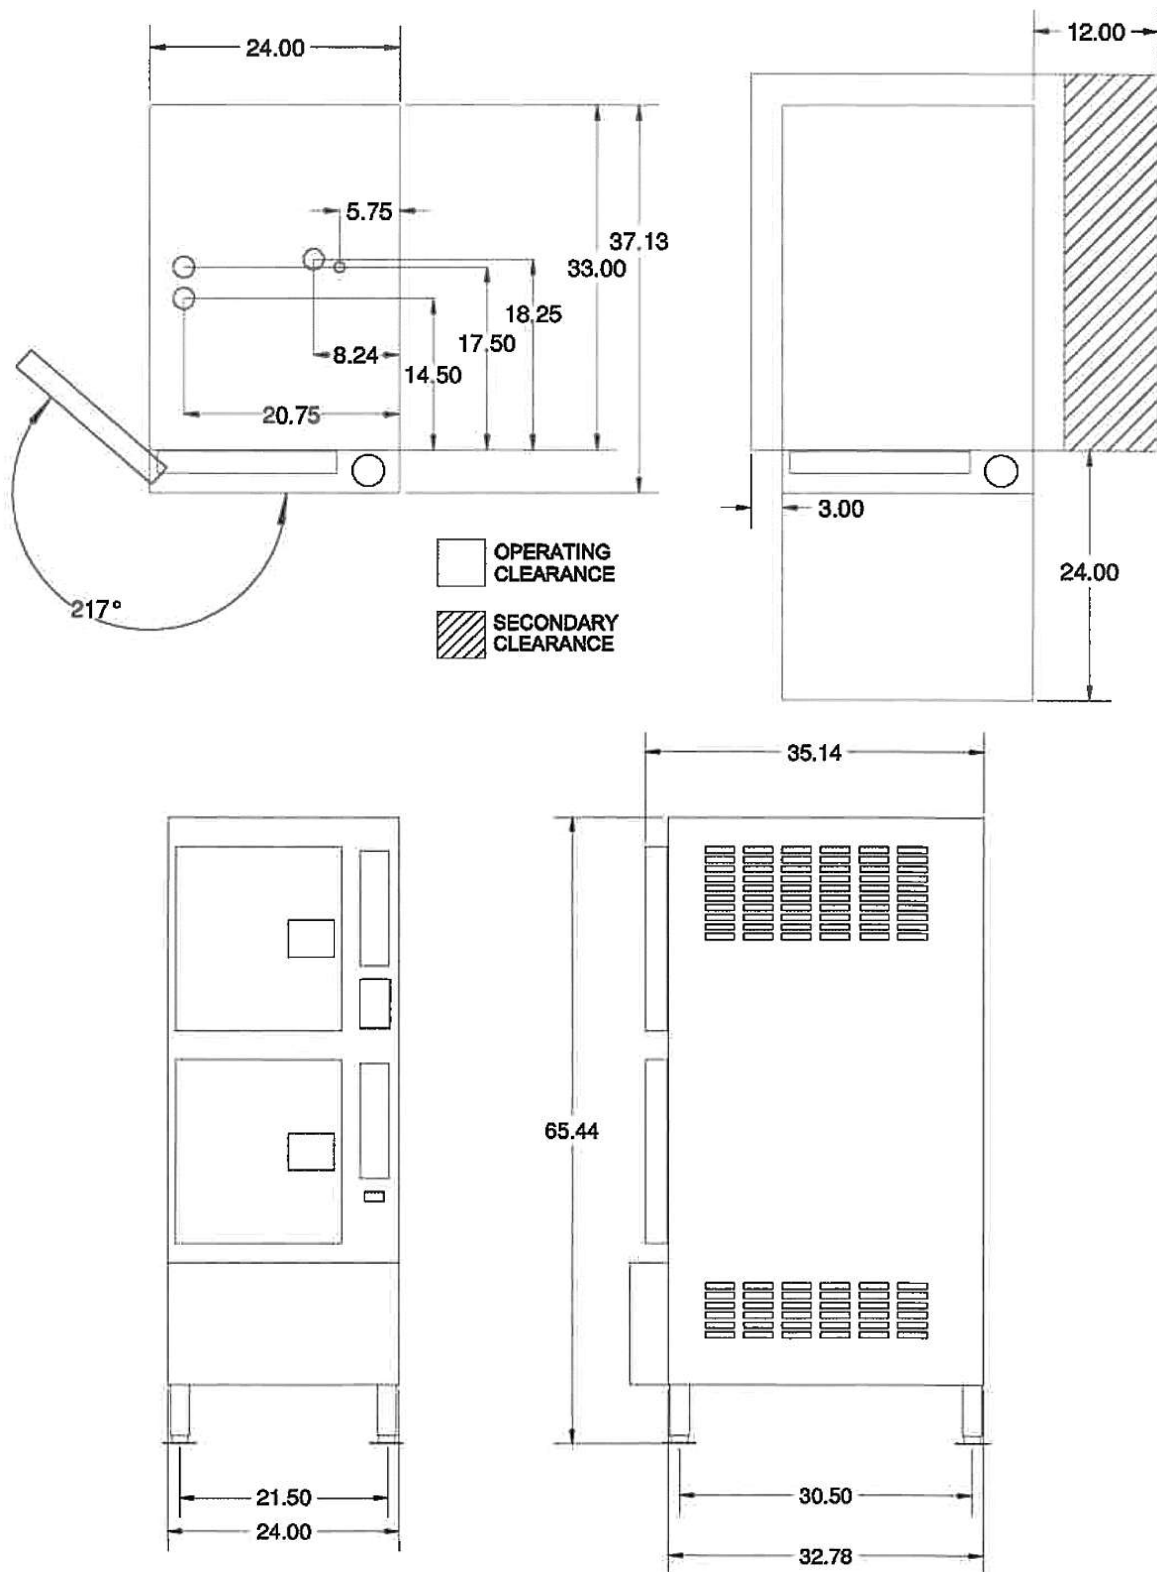

Figure 2-1
- Figures 2-1 and 2-2 illustrate the major external features of 24CDP10's.
- f. The location must include space for Operating and Service/Secondary Clearances and the Exhaust Hood. See Figure 2-1.